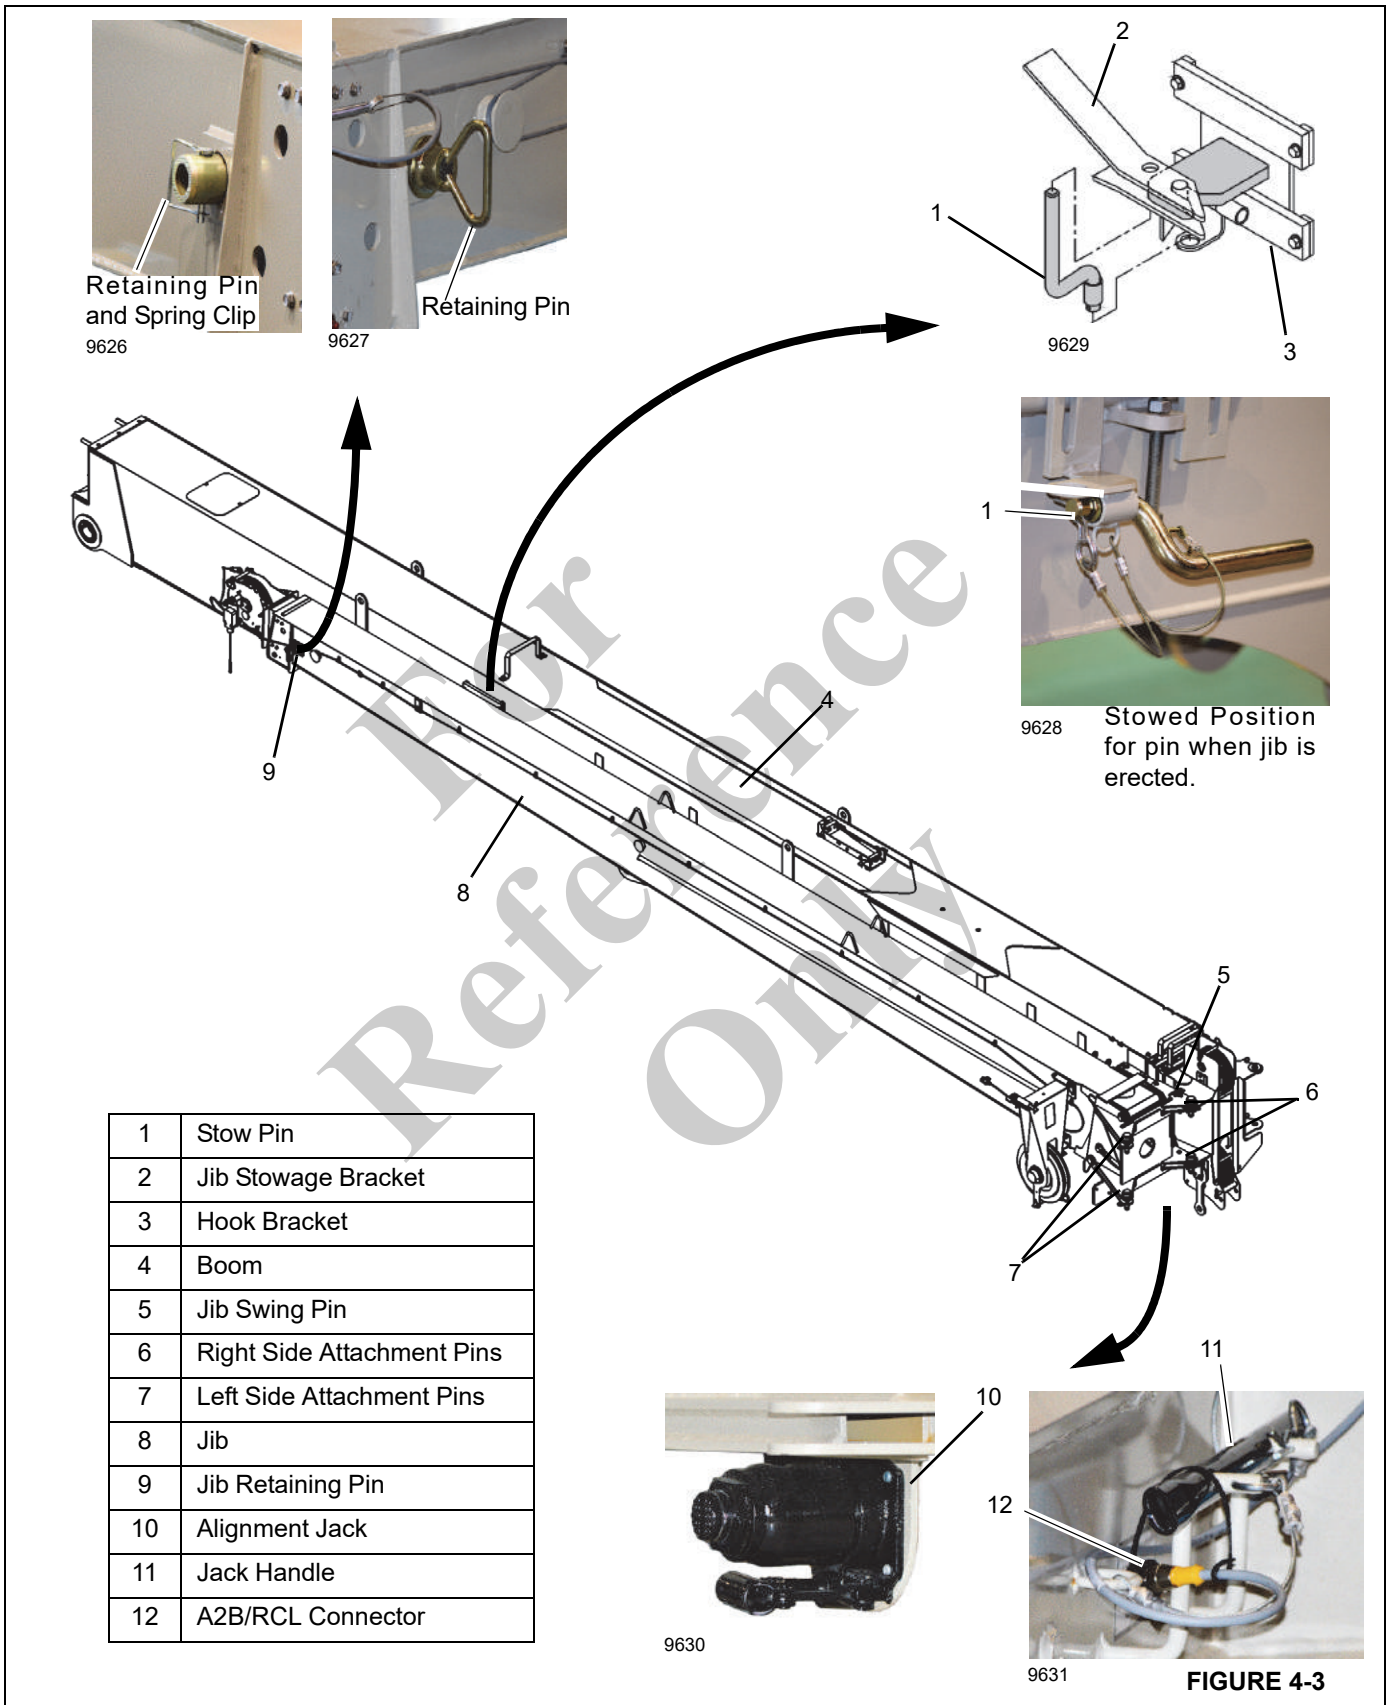
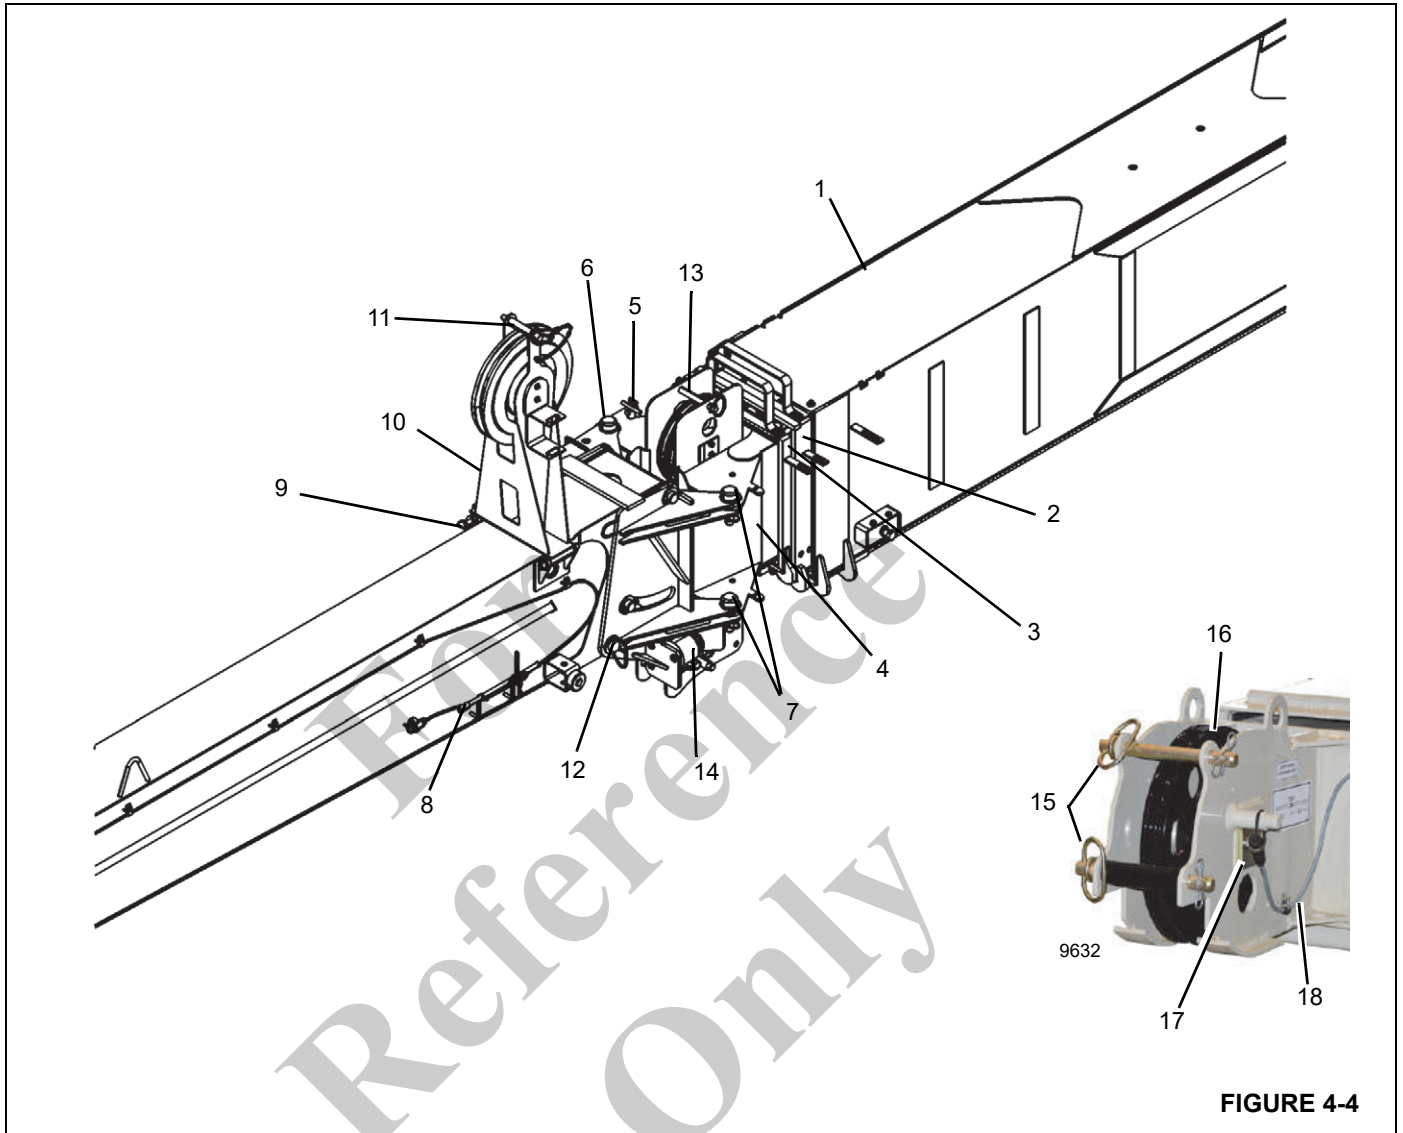

FIGURE 4-3
FIGURE 4-4
- Both pins (6, Figure 4-3) in upper and lower jib holes properly in place through mating holes on boom tip.
3. Using lift function, lower boom so that attachment pins (6 and 7, Figure 4-3) are easily accessible from the ground.
4. Install right side attachment pins (6) in upper and lower jib lugs, secure with retainer spring clips. These pins are used as a pivot point to swing jib into the deployed position.
5. Locate the stowed position of left side attachment pins (7). If in jib attachment holes or boom sheave case jib holes, remove pins from storage location.
6. Check that the jib is engaged on stowage brackets (front and rear) with the stow pin (1) installed and fully seated before removing the swing pin (5) from the boom nose.
7. Remove jib swing pin (5) from top lug of jib.
9. Remove stow pin (1) and stow in hook bracket (3), secure with spring clip.
11. Using telescope function, slowly extend boom approximately 30 cm (12 in). This procedure will pull the jib out of the hook bracket (3).
13. Install upper left attachment pin (7) and spring clip. A slight hammer strike may be necessary to install pins. Always use proper eye protection during this step.
14. Use the alignment jack (10) to align lower left side attachment pin (7).
- a. Remove the jack handle (11) from the boom stowage bracket and check that the jack release valve is closed.
- b. Extend the alignment jack (10) so that the lower left pin holes (7) are aligned.
- c. Install the lower left side attachment pin (7) and spring clip.
- d. Open the jack release valve and retract the jack (10).
17. If not already done, remove mast assembly rope retainer (11, Figure 4-4). Remove rope retaining pins and lock pins (15) from the jib nose. Route loadline over mast assembly (10) and jib sheave (16) and install keeper (17). Install mast assembly rope retainer (11). Install the jib retaining pins using lock pins (15). Install line block to end of loadline.
19. Disconnect A2B/RCL cord (18) going to boom A2B switch and attach to quick coupler on jib A2B/RCL wire (12, Figure 4-3) on rear of jib between the upper and lower jib lugs.
21. Install jib swing pin (5, Figure 4-3) and spring clip into jib lugs.
22. For manually extendable telescoping jib, pull the spring clip and jib retaining pin (9, Figure 4-3), and extend second section out by pulling on sheave case. The second section jib, as it extends, will hit a mechanical stop that allows for jib retaining pin installation. Install retaining pin and spring clip.
23. Make ATB cable (Figure 4-4) connections as required.
1. Using lift function, lower boom so that side attachment pins (6 and 7, Figure 4-3) are easily accessible from the ground.
2. Two section telescoping jib — For manually extendable jibs, pull jib retaining pin (9, Figure 4-3) and fully retract
3. Two section telescoping jib — Reinstall jib retaining pin (9, Figure 4-3) through the 1st and 2nd section jib assembly and install spring clip.
5. Disconnect A2B/Rewire connector (12, Figure 4-3) at rear of the jib. Re-connect A2B/RCL switch connector on boom tip. Move weight/chain assembly to boom tip see Figure 4-10.
6. Lower the mast assembly (10, Figure 4-4). Secure with retaining clip and pin. For more information, see *Setting the Offset Mast*, page 4-13.
8. Remove spring clips from left side attachment pins (7, Figure 4-3 and Figure 4-4) on both upper and lower jib lugs.
9. Remove jib swing pin (5, Figure 4-3) from the boom nose.
10. Remove left side attachment pins (7, Figure 4-3 and Figure 4-4) from upper and lower jib lugs. Do not remove right side attachment pins (6) at this time. The right side attachment pins (6) will be used as a pivot point to swing jib into stowed position. A slight hammer strike may be necessary to remove pins.
13. Using tag line attached to jib sheave case, slowly swing jib into stowed position (parallel with tele 1 boom), the right side attachment pins (6, Figure 4-3) are the jib pivot points during this operation.
14. Install jib swing pin (5, Figure 4-3) with spring clip through jib lug and boom sheave case holes. This pin will keep the jib assembly in line (parallel) with the 1st section boom.
**NOTE:** Jib swing pin (5, Figure 4-3) does not retain the jib in its stowed position on the 1st section boom.